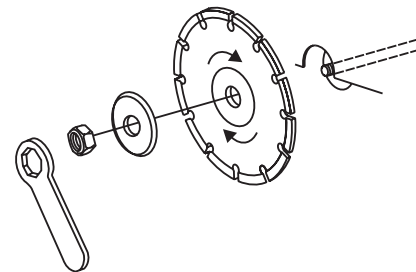

Figure 12. Tool (Blade) Wrench
5. Use the provided blade nut wrench to remove and install the blade. (Figure 12)